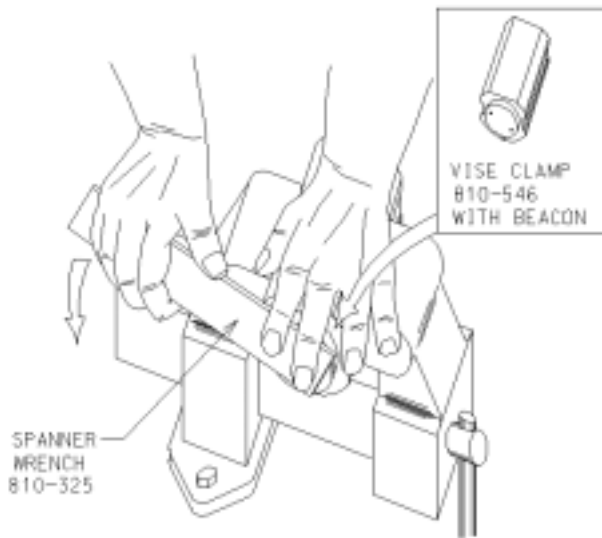

Figure 18. Battery End Cover Removal With Vise Clamp and Spanner Wrench
B. Secure the beacon with Vise-Clamp (P/N 810-546) as shown in Figure 18.
L. Replace the cover and tighten it until the cover flange contacts the body or leaves less than a 0.003 inch gap. Use hand force only on the wrench. Hold the beacon in a vise clamp as shown in Figure 18. Clean the beacon exterior of excess O-ring grease.